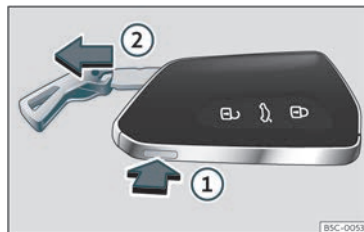

Fig. 71 Vehicle key: remove the key blade.
- If you press button >>> Fig. 71 ① once the key blade is unlocked and a ring appears as a key ring.
- Press and hold the button ① and at the same time pull on the ring in the direction of arrow >>> Fig. 71 ② to completely remove the key blade.